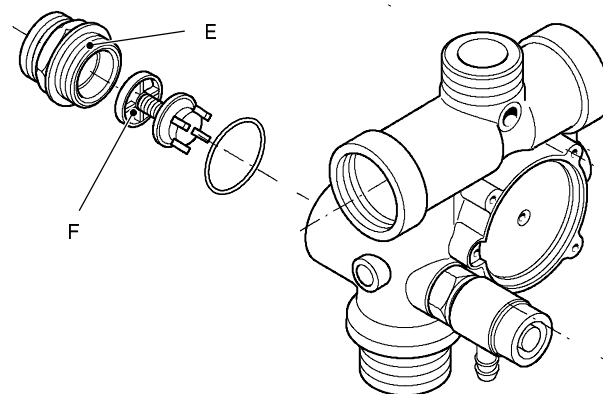

fig. 70
- 5 Unscrew the connector E and remove the by-pass valve F (fig. 70).
- 6 Reassemble the by-pass valve as illustrated in fig. 70 and proceeding in reverse order.